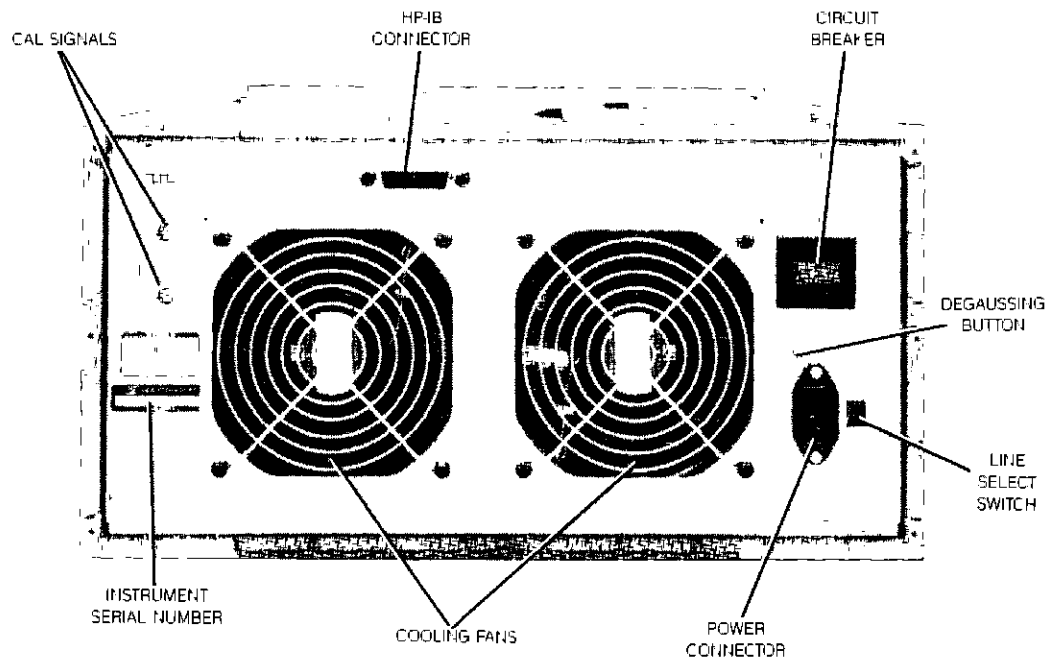

Figure 4-1 HP 54110D Rear Panel
*Before connecting this instrument to the AC power source, insure that the line select switch on the rear panel of the instrument is set to the appropriate position (see figure 4-1).*
2. The mains breaker is located on the upper right hand corner of the rear panel (see figure 4-1).